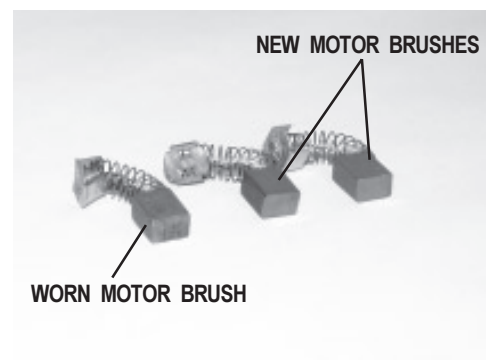

Figure 38. Motor Brushes
4. Inspect for wear. See figure 38.